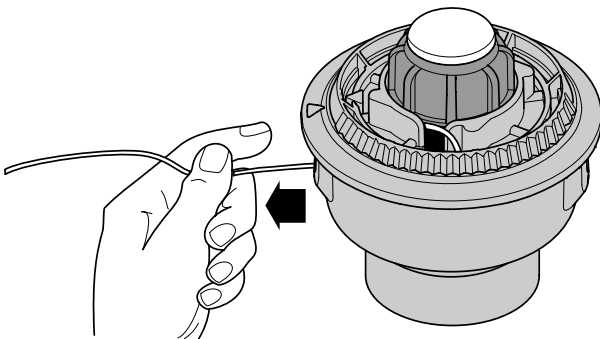

Fig. 17
6. Pull the line from the outer spool until the line is tight against the inner reel (Fig. 17).